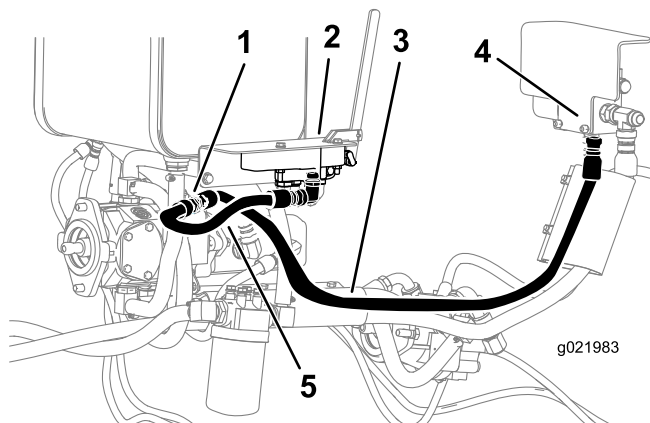

Figure 20
3. Connect the other end of hose B to the 90-degree fitting (Out port) on the hydra-borer-control valve (Figure 14 and Figure 20).